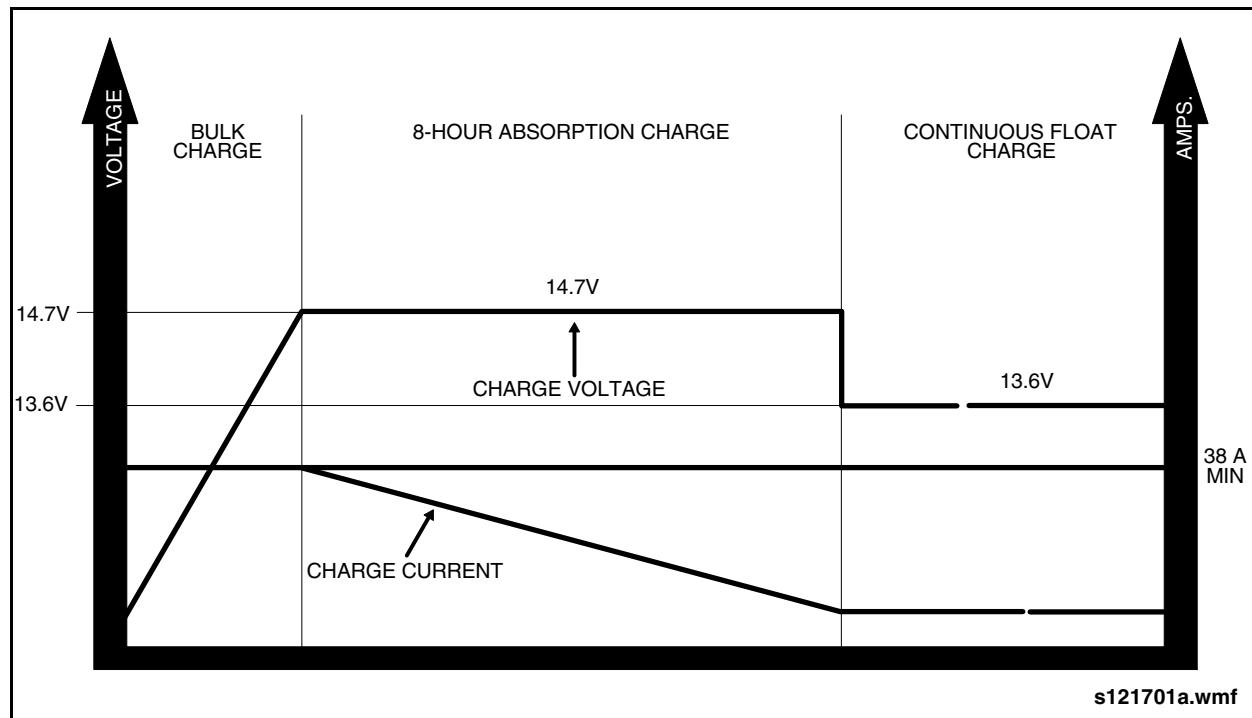

Fig. 9-47: Battery Charging Profile
- Use a 40A rated battery charger with a charging profile that provides a constant current during the bulk charging stage, followed by two stages of constant voltage charge. See "Fig. 9-47: Battery Charging Profile" on page 72.